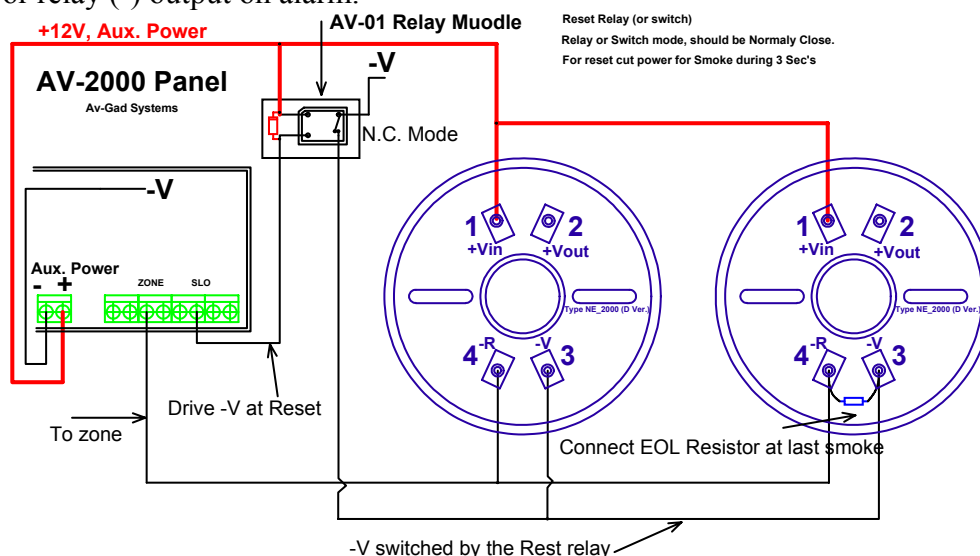

Figure 6: Smoke Detector Wiring
- To reset AV-2008, AV-2016 Dublo smoke detector program the SLO 1 output to drive -V while holding-down key 9 (a momentary switch or relay that disconnects power to smoke detector after a smoke alarm). Refer to smoke wiring diagram figure 6.